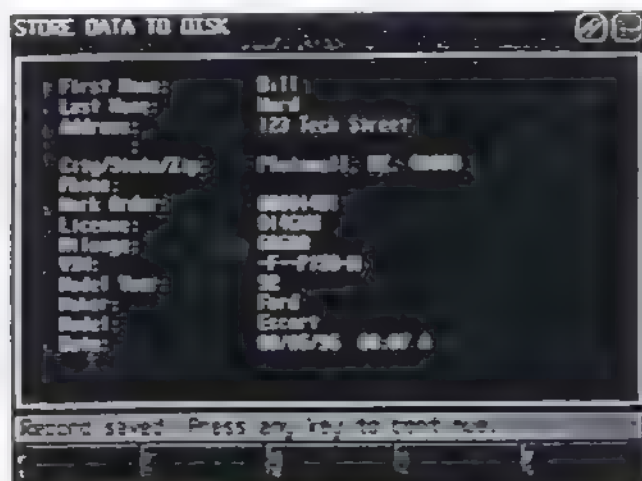

Figure 5-26
4. A summary screen of the record is displayed on the screen (see Figure 5-26). Press any key to continue.
5. A summary screen of the record is displayed (see Figure 5-26). Press any key to continue.